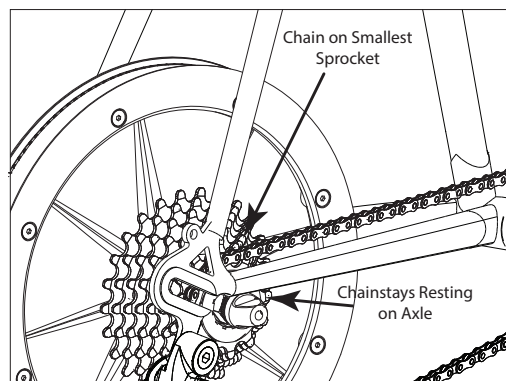

FIGURE 2.2
4. With the rear wheel removed guide the rear of your bicycle over top of the REVOLUTION and ensure that the chain rests on the smallest sprocket of the cassette on the REVOLUTION and the bicycle chain stays rest on the axle of the REVOLUTION. (Figure 2.2)